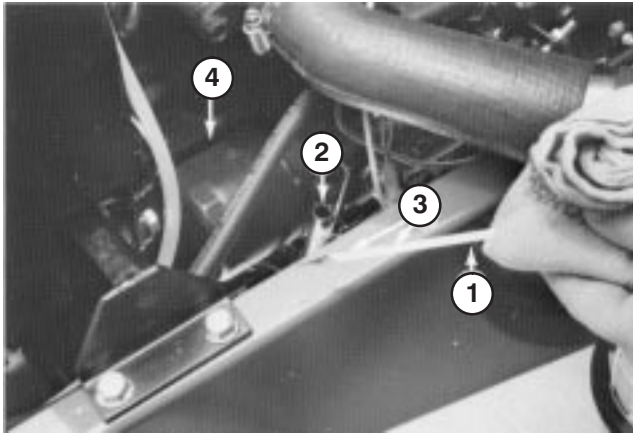

Figure 42
4. Remove oil drain plug and allow oil to flow into drain pan. Remove and replace oil filter (Fig. 42); refer to parts catalog for part number.